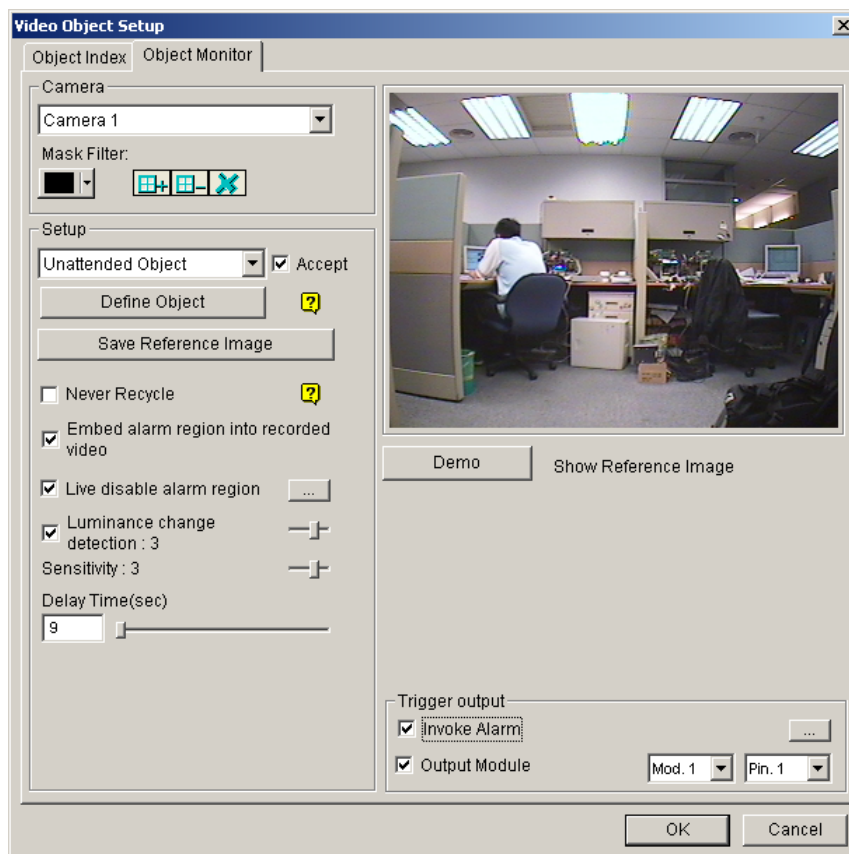

Figure 1-62 Object Monitor
1. Follow the step 1 to 4 in the above *Detecting Unattended Objects* section to display the Video Object Setup window (Figure 1-62).